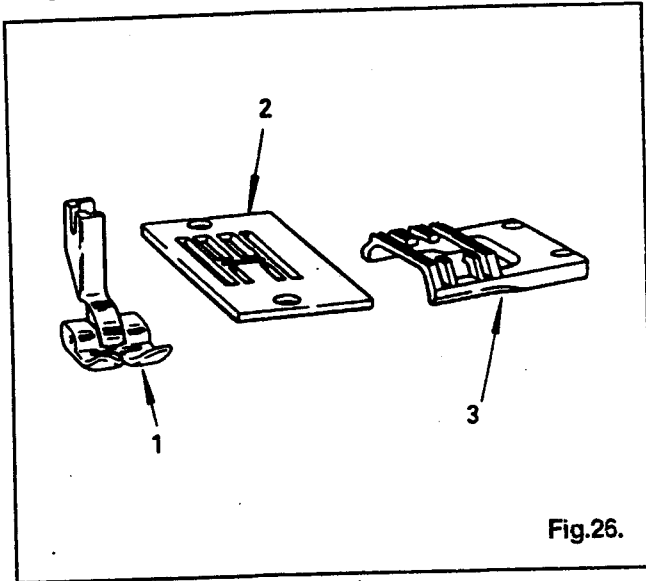

Fig.26.
General Purpose Presser Foot (1), Throat Plate (2) and Feed Dog (3) as shown in Fig.26, are used for straight and zigzag stitching.